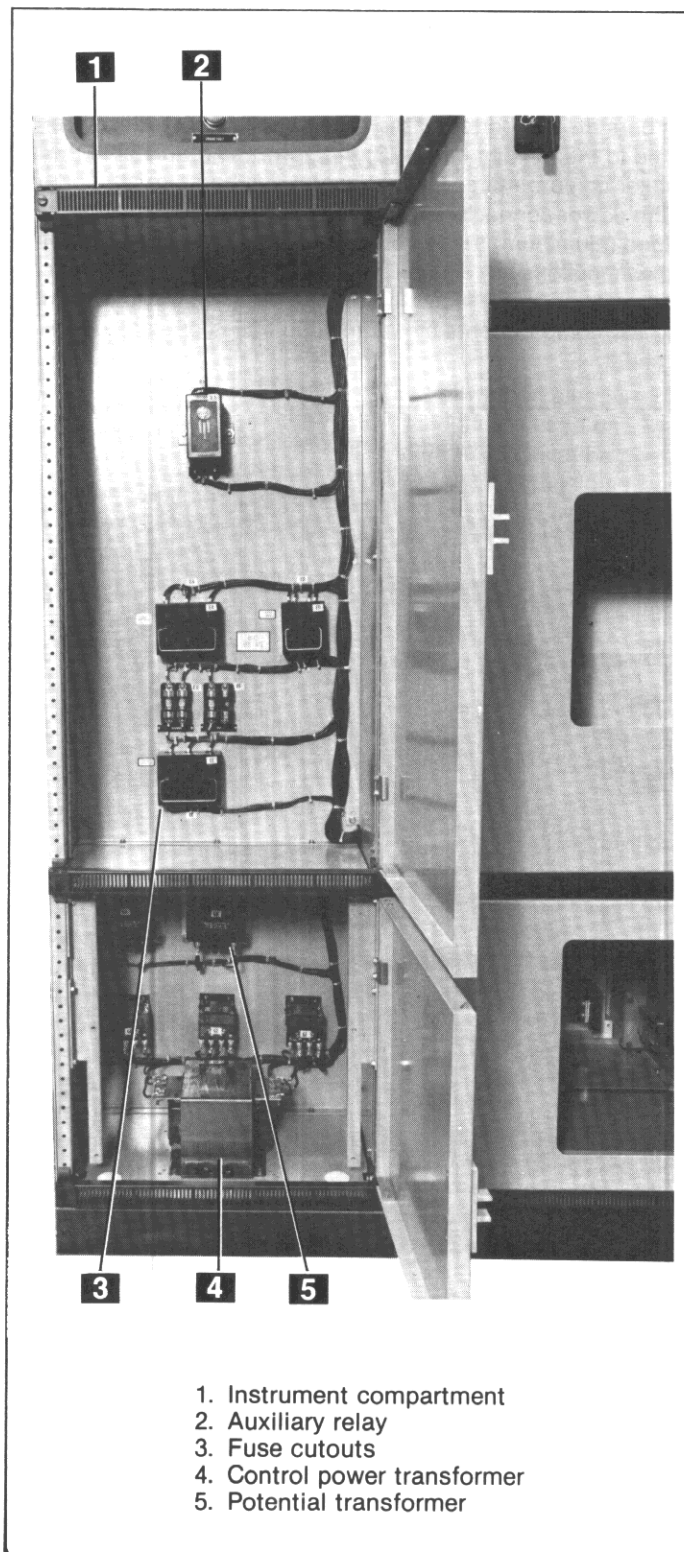

Fig. 3-19. Auxiliary/transition section — partial front view
Figure 3-19 is a partial front view of a typical auxiliary/transition section.
Electric indicating instruments are located in the top compartment (1), Fig. 3-19, (partially shown), an auxiliary relay (2), and fuse cutouts (3) in the middle compartment, and potential transformers (4) and a control power transformer (5) in the lower compartment.